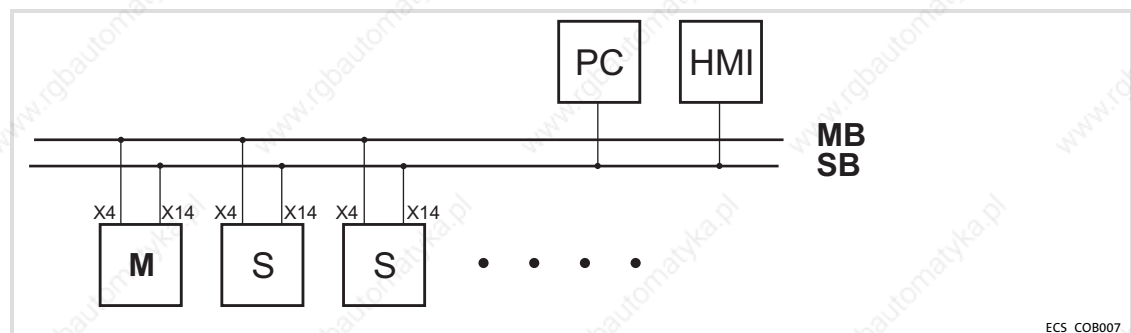

Fig. 5-16 MotionBus (CAN) with controller as master
- In Fig. 5-16 the function of the master is enabled by a controller that is assigned to the master.